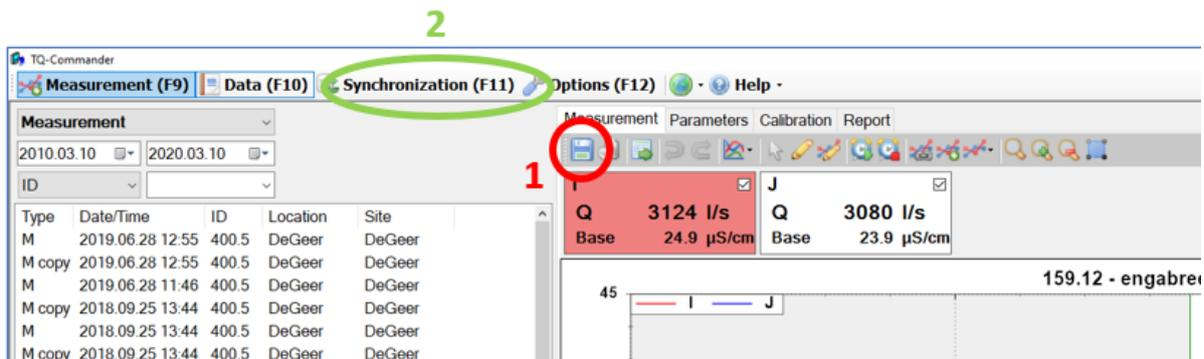

Figure 1: Export data from TQ-Commander - 1
**FUNY** uses .xml files exported from the Sommer TQ-Commander software. Once you have processed your measurement with TQ-Commander, **save** your file and go to Synchronization (Figure 1).